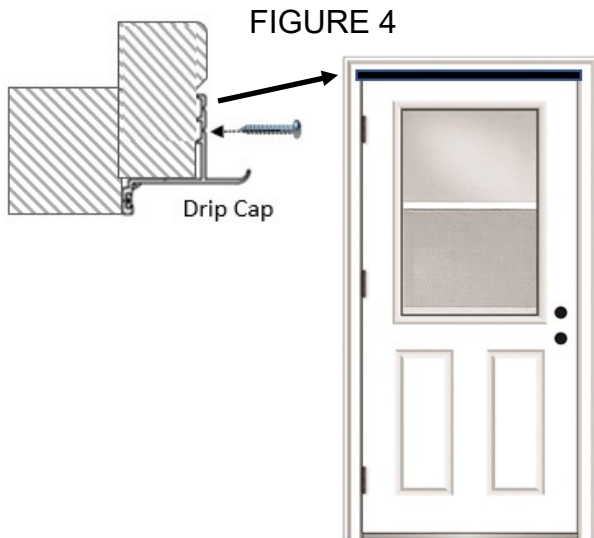

FIGURE 4
8. **INSTALLING DRIP CAP:** See (Figure 4). To install the drip cap, center it on the brickmold from side to side. Verify the brickmold is level before attaching the drip cap. Then install two #10 1 1/4" screws in each end. (). After attaching the drip cap, check that it is level as well. **NOTE:** If you want to reduce the potential of the wood splitting when you install the screws, then predrill a pilot hole with a drill bit smaller than the screw. This would typically be no larger than a 3/32" drill bit size. Do not predrill your hole more than 1/3 the length of the screw into the wood.
24. SAFETY CHAIN INSTALL (FIGURE 4): Swing chain toward hinge side of door and fasten hold up spring to head jamb with a nail, about 3" from door jamb.